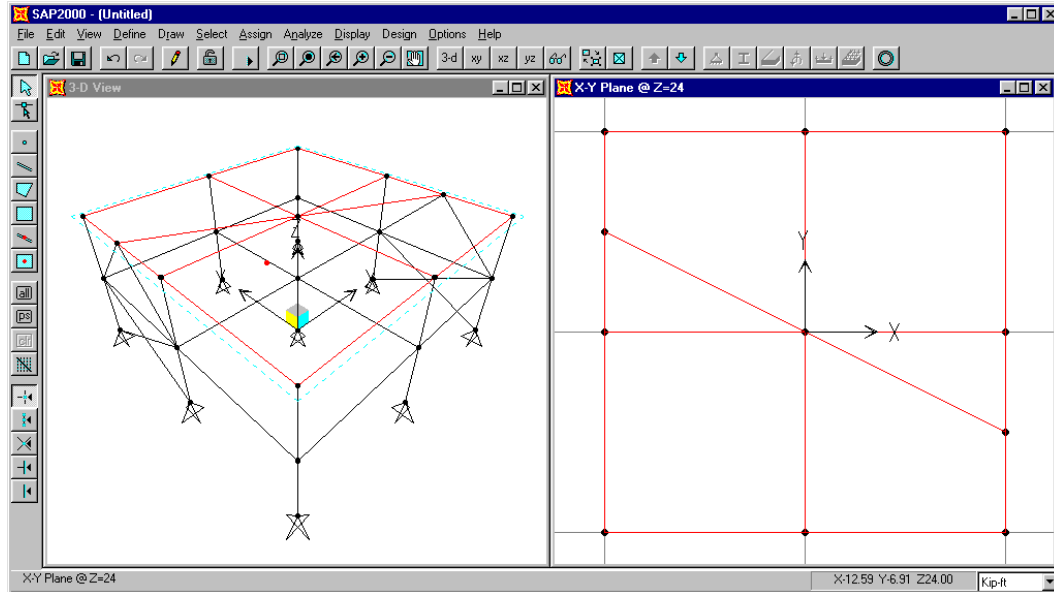

Figure C-8: Model With All Geometry Input
45. Uncheck the box labeled Fill Elements and click the **OK** button to display the shell elements not filled. The display should appear as shown in Figure C-8.